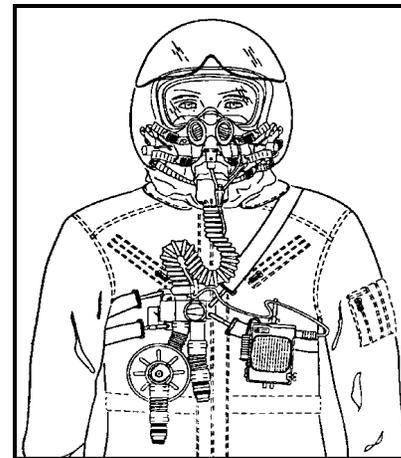

Figure 1
**Step 8a. Helmet Version:** Refer to Figure 1.
**Step 10: Non-Parachute/Harness Use:** Refer to Figure 1.
-- Pass a strap around torso and fasten to manifold. Position manifold as seen in figure 1. Secure communication unit.